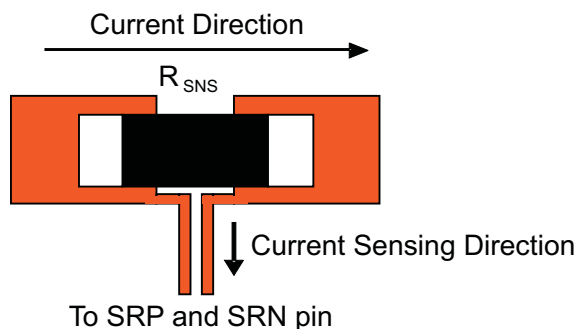

Figure 27. Sensing Resistor PCB Layout
3. The charging current sensing resistor should be placed right next to the inductor output. Route the sense leads connected across the sensing resistor back to the IC in the same layer, close to each other (minimize loop area) and do not route the sense leads through a high-current path (see Figure 27 for Kelvin connection for best current accuracy). Place decoupling capacitor on these traces next to the IC.